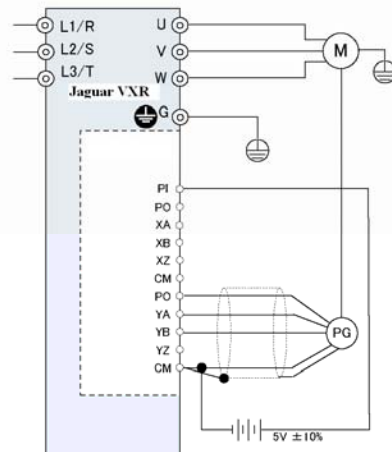

Figure 2.2 Connection Diagrams for Speed Control with PG and Positioning Control
■ Figure 2.2 shows connection diagram examples for speed and positioning controls.